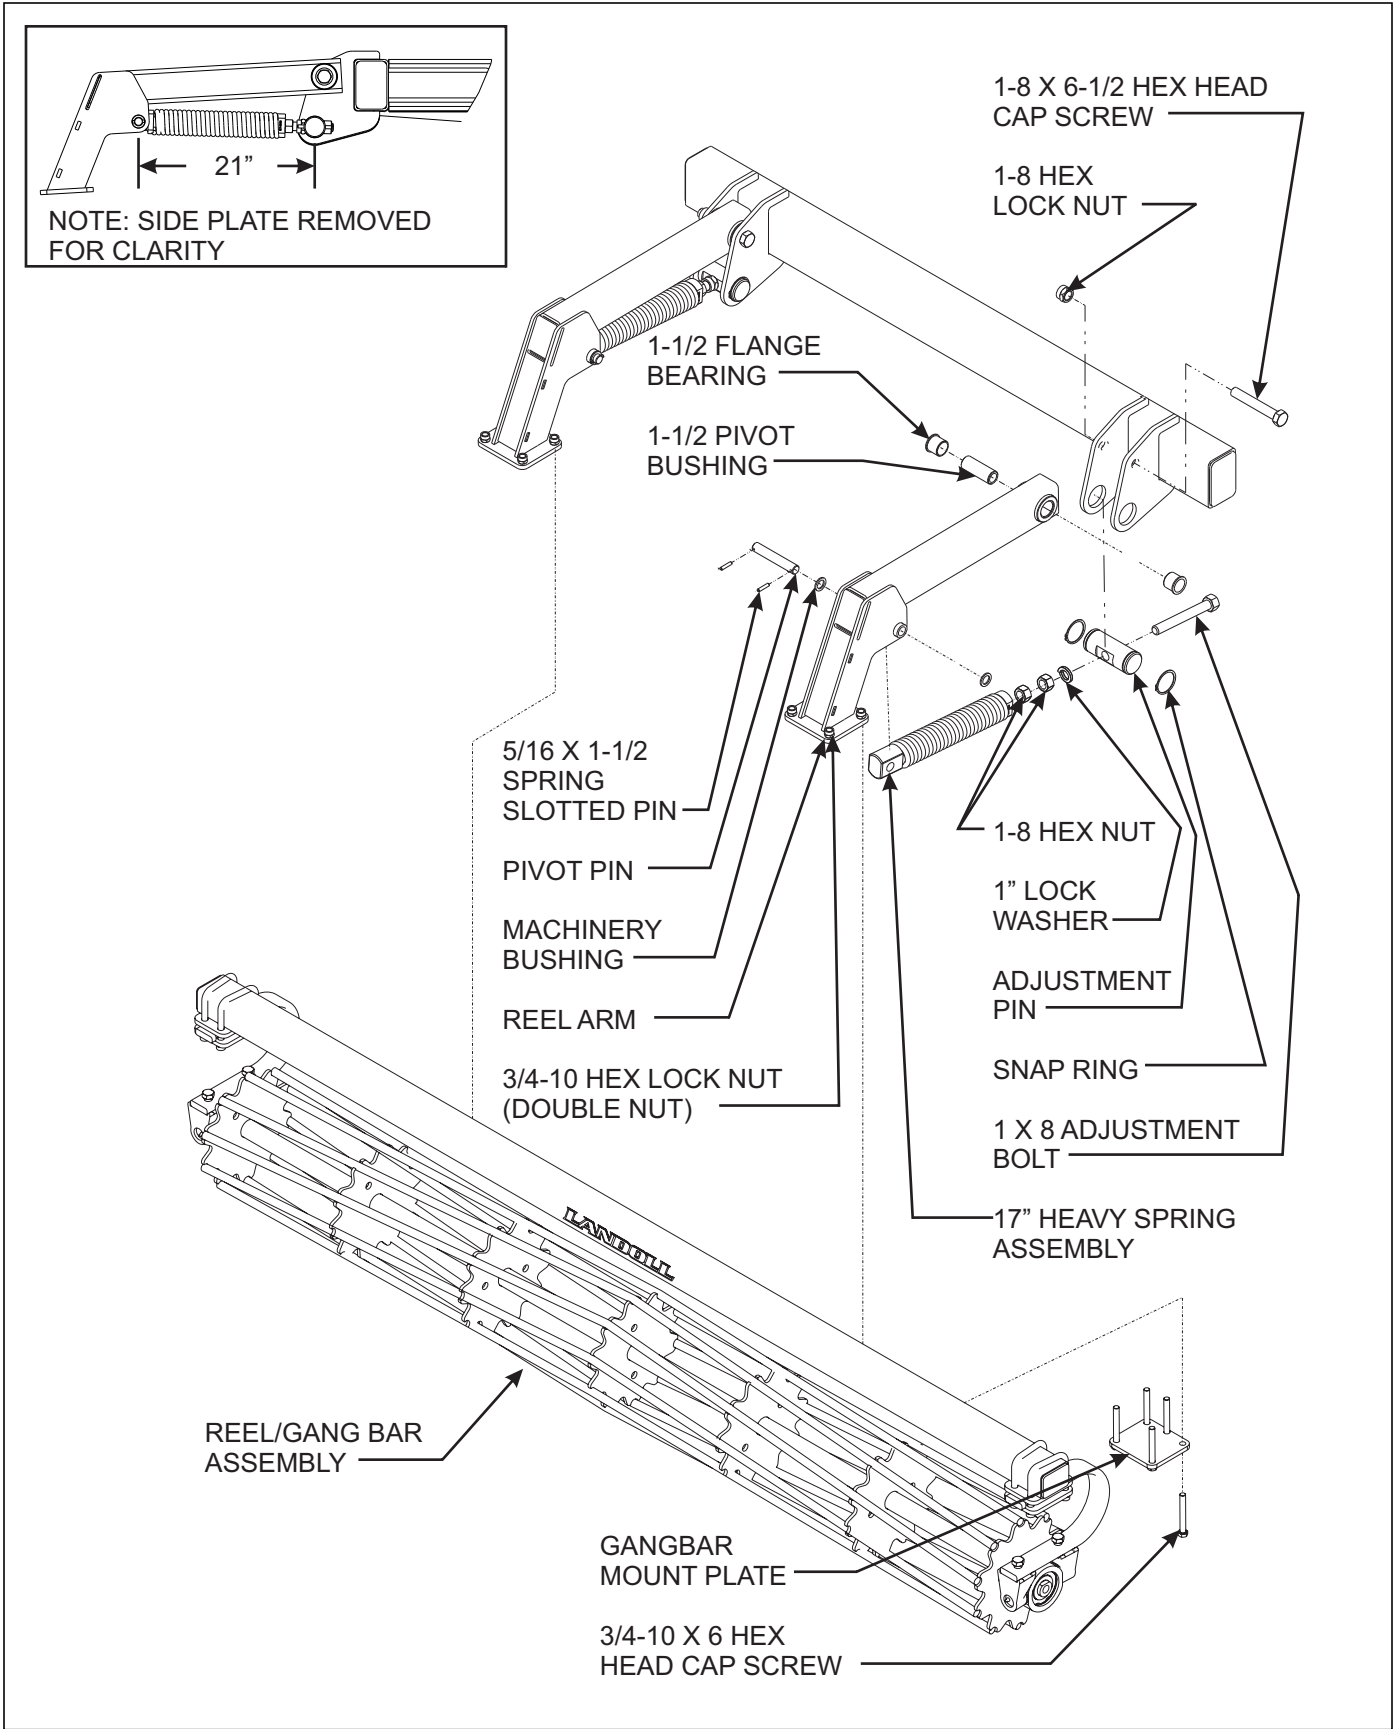
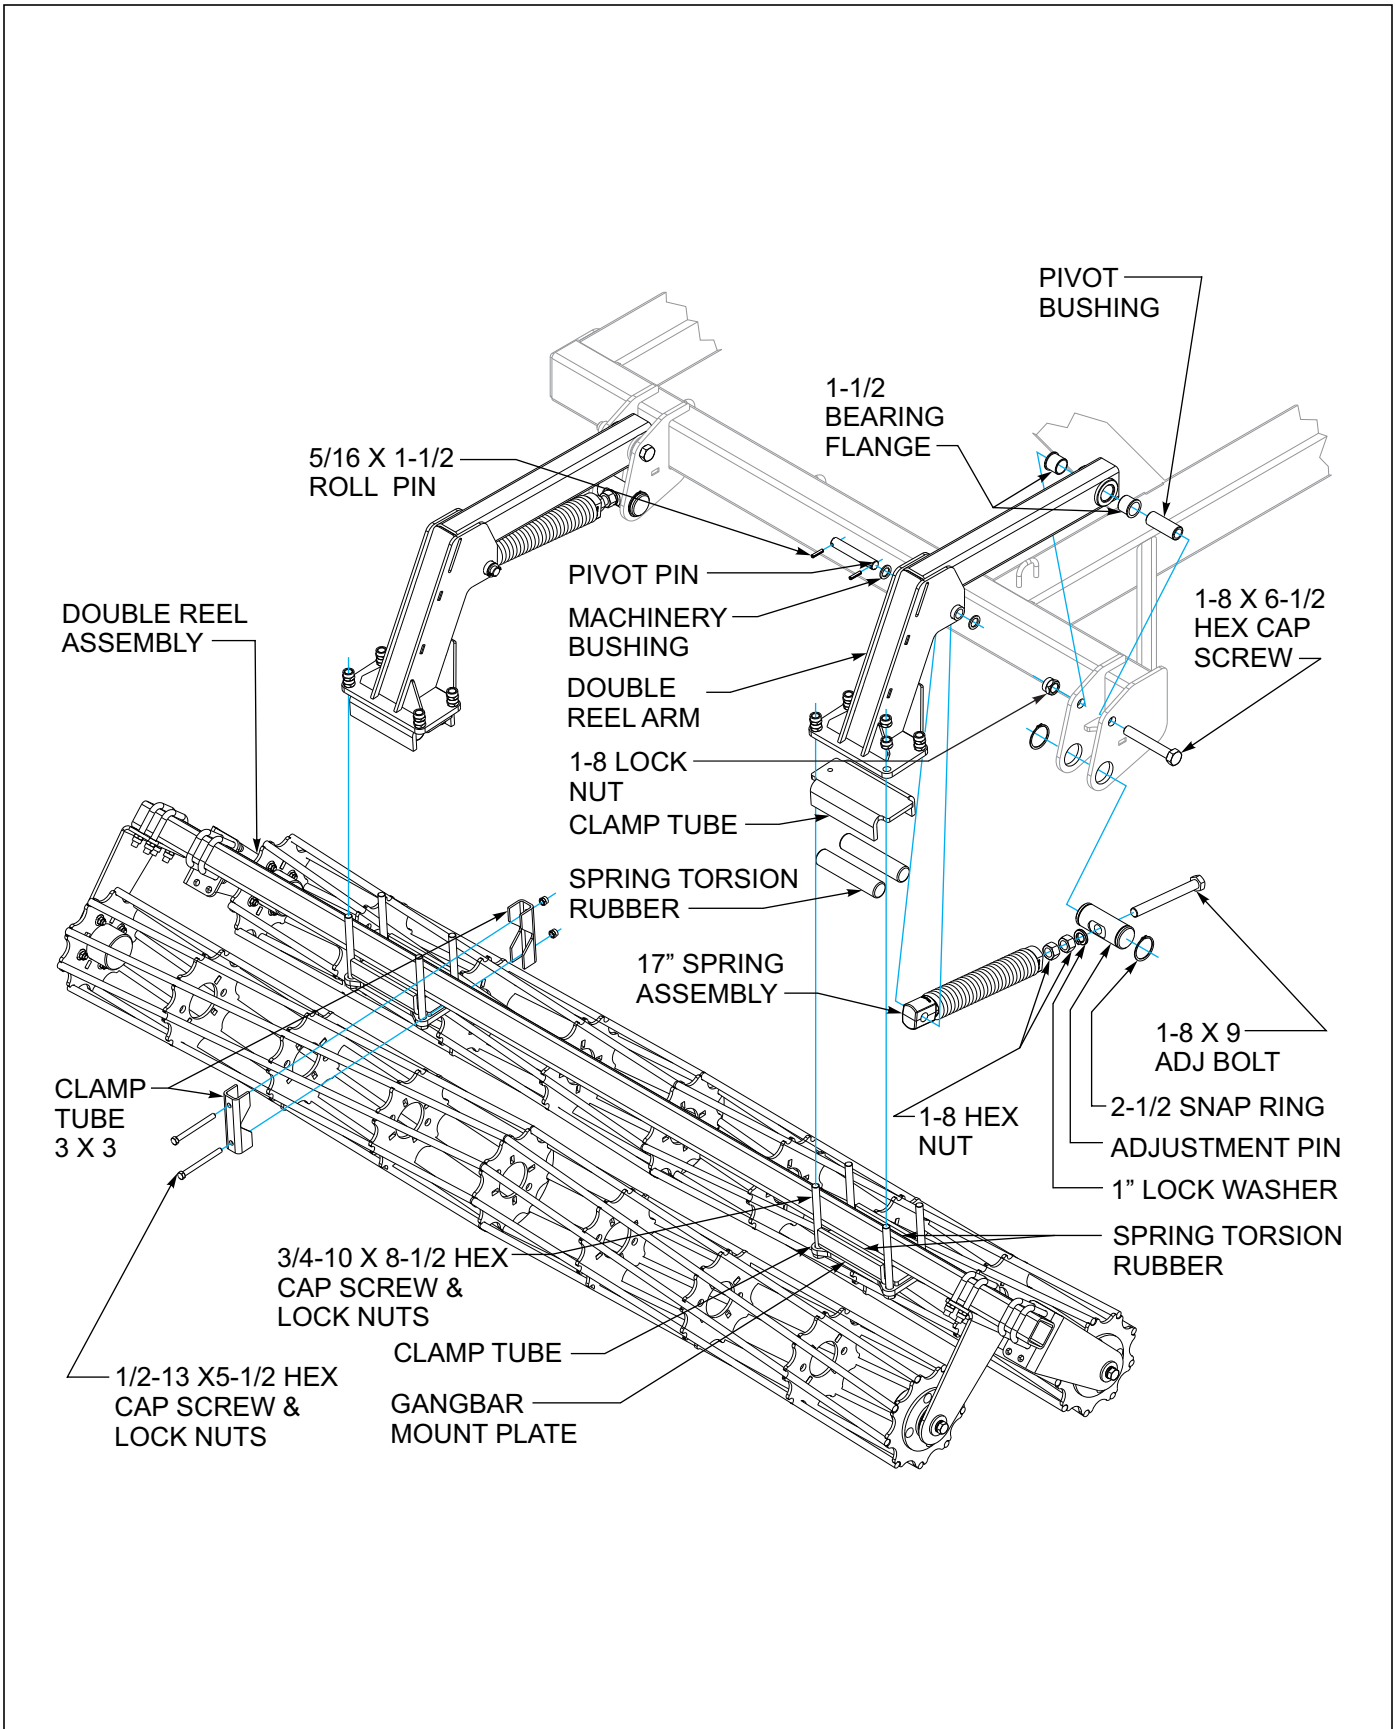

Figure 3-24: Conditioner Single Reel Installation
Figure 3-25: Conditioner Double Reel Installation
Refer to *Conditioner Single Reel Installation* shown in **Figure 3-24** for single reel installation or *Conditioner Double Reel Installation* shown in **Figure 3-25** for double reel installation.
1. Slide the adjustment pin through the rear plates of center and wing frames, secure with (2) 2-1/2 snap rings.
2. Assemble the 1-8 x 9 adj bolt through adjustment pin on frame, 1" lock washer, (2) 1-8 hex nuts, and 17" heavy spring assembly.
5. Assemble 17" heavy spring assembly to reel arm using 1" pivot pin, and 5/16 x 1-1/2" spring slotted pins. Set pin centers to 21" dimension as shown in **Figure 3-24**.
6. Attach single reel/gang bar assembly to reel arms using gang bar mount plate, 3/4-10 x 6 hex head cap screws and double hex lock nuts as shown in **Figure 3-24**. Refer to pages 2-6 thru 2-17 for single reel gang bar placement locations.
7. Attach double reel/gang bar assembly to reel arms using gang bar mount plate, (2) clamp tubes, (4) spring torsion rubber, secure with 3/4-10 x 8-1/2 hex head cap screws and double hex lock nuts as shown in **Figure 3-25**. Refer to pages 2-18 thru 2-23 for double reel gang bar placement locations.
8. Install (2) clamp tubes on front and back of double gang bar, secure with 1/2-13 x 5-1/2 hex cap screws and 1-2 lock nuts. Refer to pages 2-18 thru 2-23 for clamp tube locations. Each set (2 total) should be slid against gangbar mount plate on outside of inner wing arm assemblies.